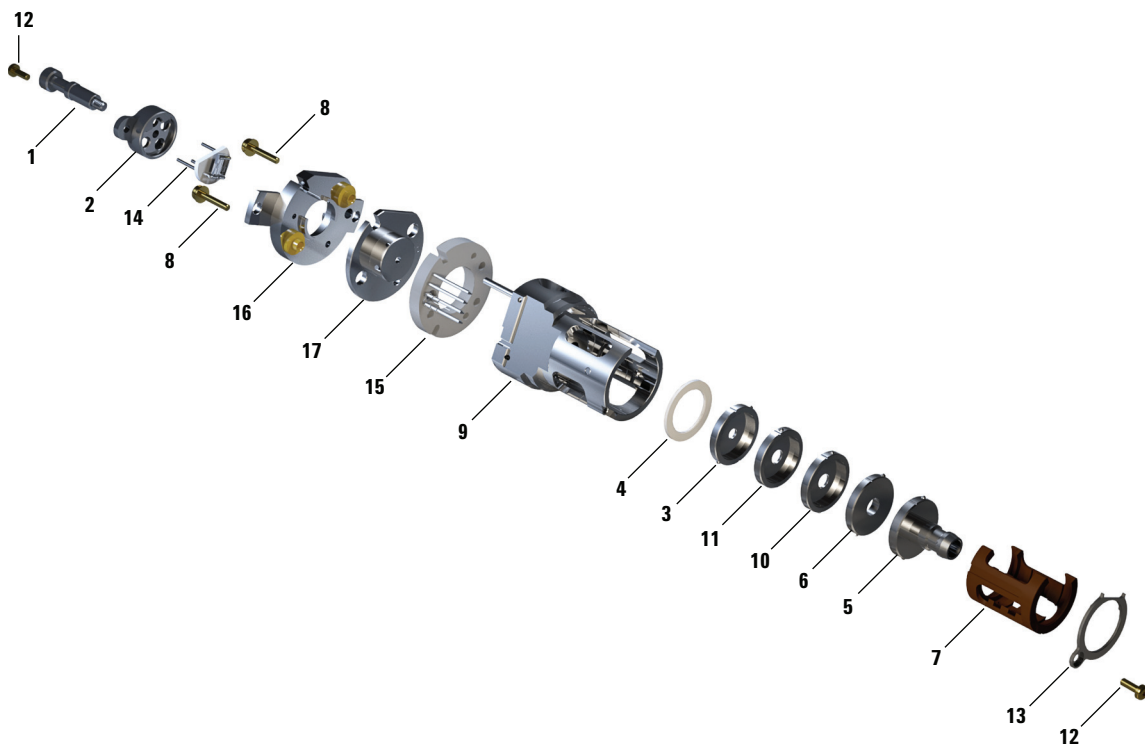

Figure 59. Assembling the EI HES
Refer to the exploded parts view and the EI HES parts list while using this procedure. (See Figure 59 and Table 19 on page 187.)
- 3 Insert the lens stack encased in the insulator into the source body. (See Figure 59 on page 187.) The engraved numbers face the full opening extending to the end of the source body. Verify that the ceramic is sitting flush at the end of the source body.
- 9 Thread the finger grip into the filament block. (See Figure 59 and Table 19 on page 187.)
Table 19 Parts list for EI HES (Figure 59)
Table 19 Parts list for EI HES (Figure 59) (continued)